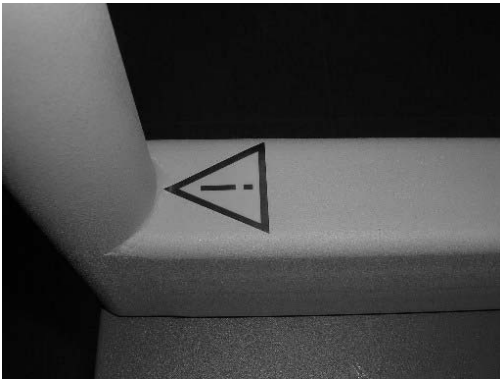

Figure 1: Location of the caution label
- 1) Locate and remove the caution label on the Ergotron support arm as shown in Figure 1.